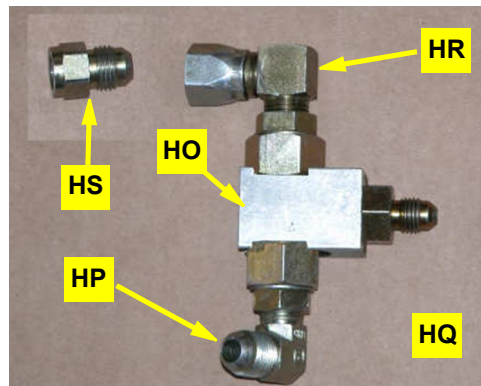

Figure 2a: Assembled load sense shuttle valve
a. Assemble the load sense shuttle **HO** with the provided fittings **HP**, **HQ**, **HR** and **HS** (Figure 2a).